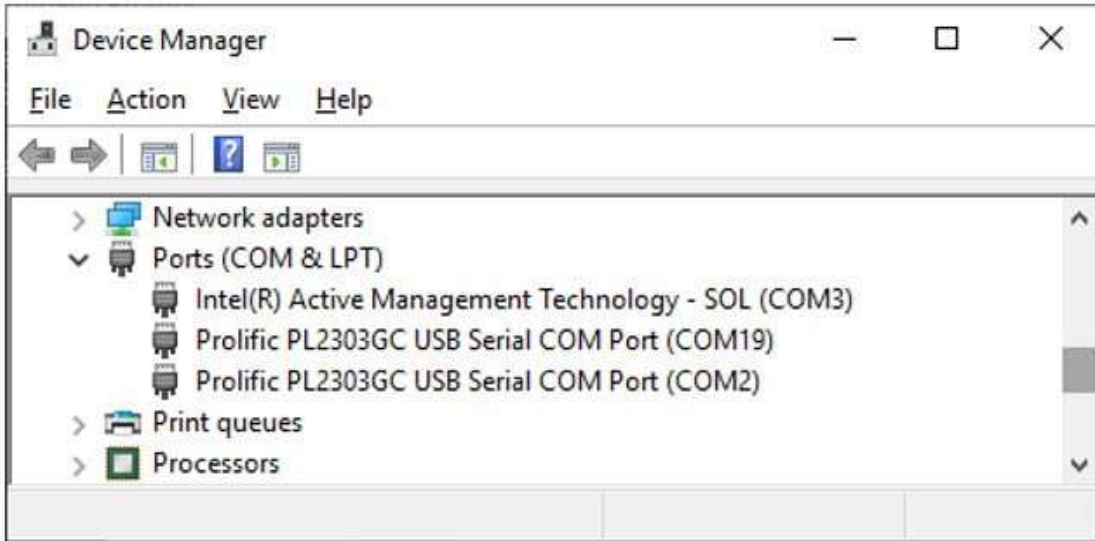

Figure 3.
1. Open the Windows Device Manager (see **Figure 3**) and determine the associated COM port for each program (i.e., DS9401 and DS2488EVKIT).